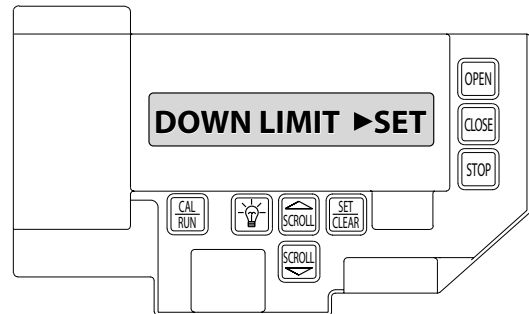

FIG. 6
7. Press SET/CLR to switch display to DOWN LIMIT SET. FIG. 6.